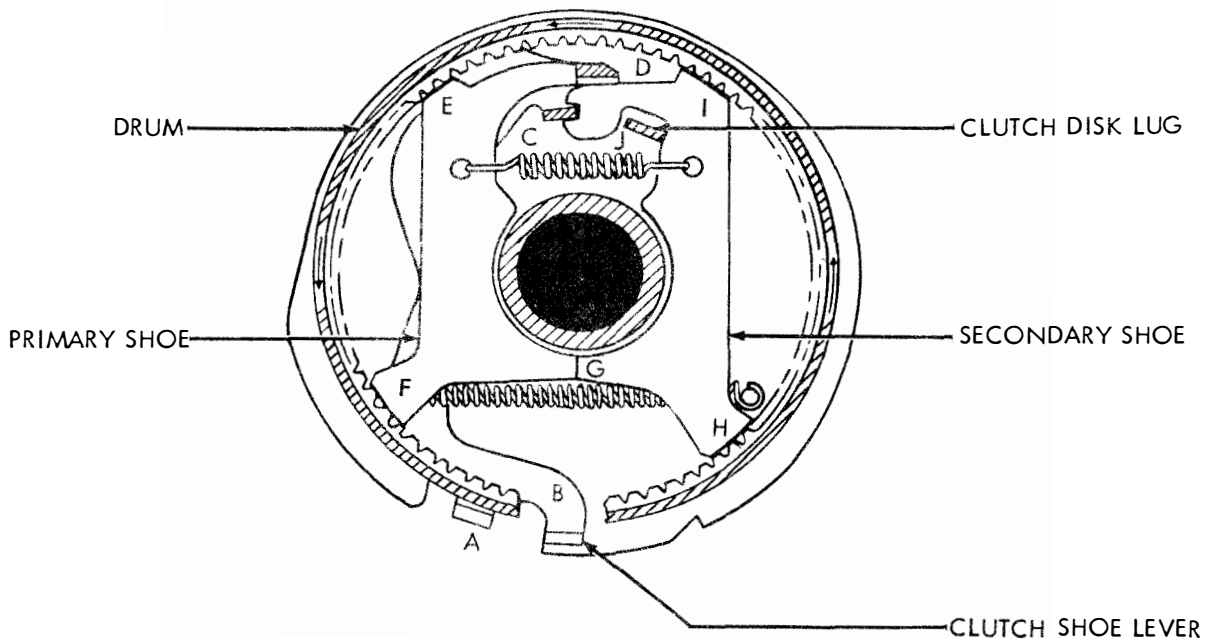

Figure 20B - Clutch - Disengaged
2.27 Figure 20B is accomplished by bringing together lug A on the clutch cam disk, and the lower end of the clutch shoe lever B. The upper end of lever B pivots about its ear C and allows its other ear D to move toward the right. The upper spring then pulls the two shoes together and away from the drum.